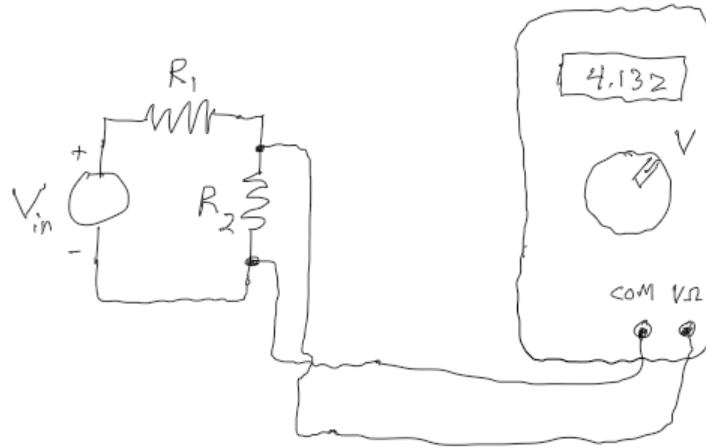

Figure I-3. Arrangement for measuring the voltage across R_2 in a circuit.
In this class you'll also use a digital multimeter (DMM). For this lab we have BK Precision model 388B multimeters, as shown in Figure I-2. To measure the voltage across two points, you connect one probe to the COM input and the other probe to the VΩ input and select one of the voltage (V) ranges. You take your measurement *across* the two points whose voltage difference you want to measure, as shown in Figure I-3. You can switch between measuring DC volts and AC volts with the DC/AC switch. When the meter is set up this way, its impedance is very high and it draws very little current. That is so that the load of the meter doesn't affect the voltage being measured.